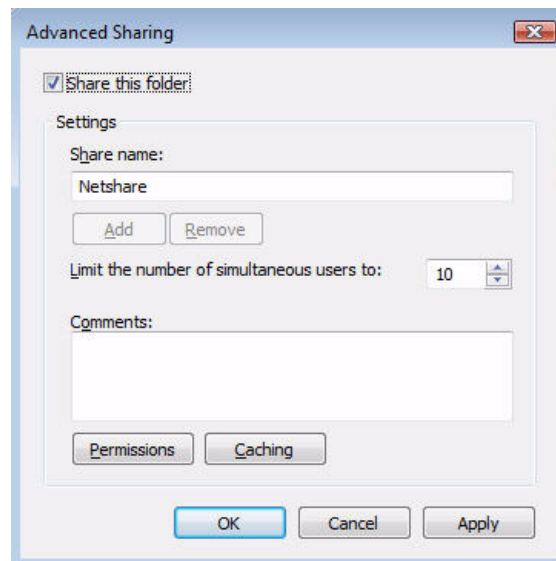

Figure D-14 Advanced Sharing Dialog
3. Select the **Advanced Sharing...** button. If you have User Account Control enabled you will see a **User Account Control – Windows needs your permission to continue** dialog. Click **Continue** to proceed. The Advanced Sharing dialog opens (Figure D-14).